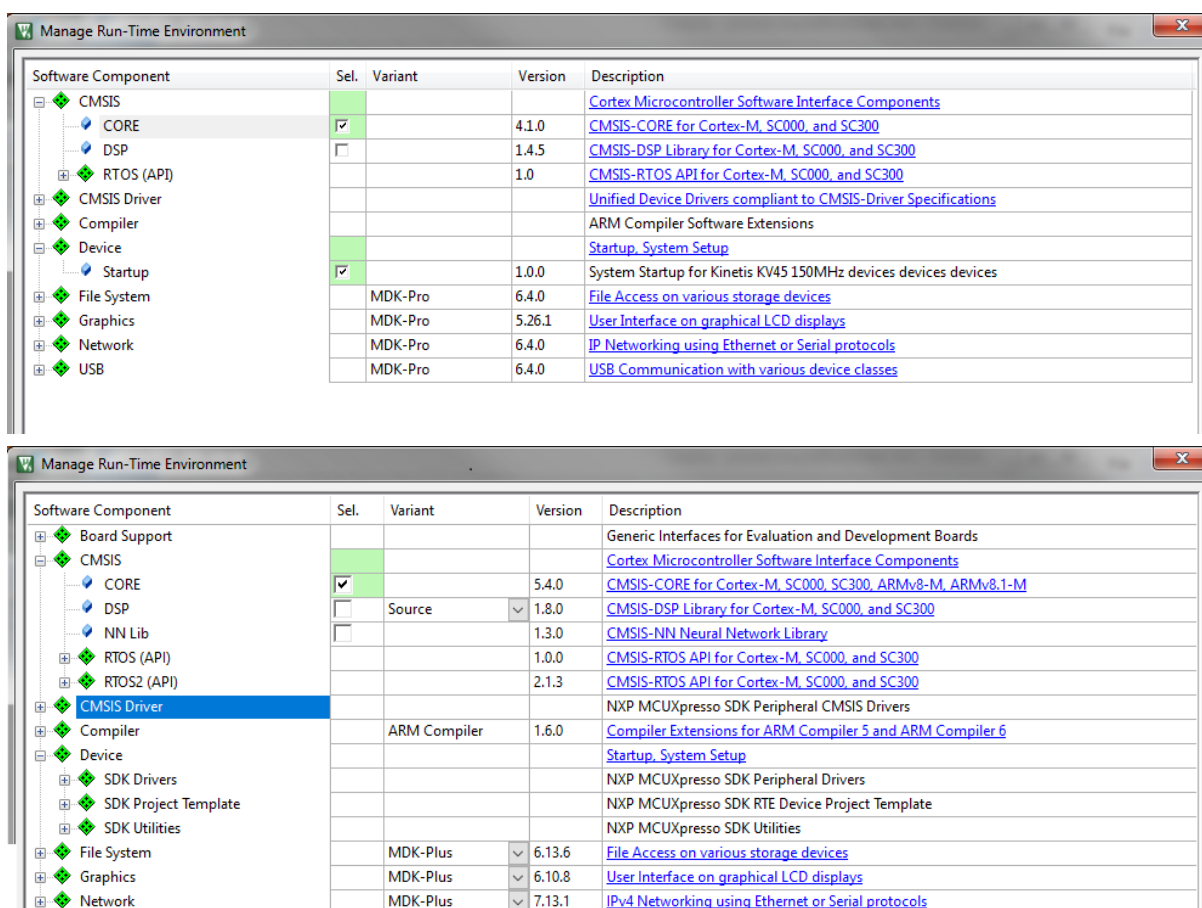

Figure 1-28. Manage Run-Time Environment dialog
8. In the next dialog, expand the Device node, and tick the box next to the Startup node. See Figure 1-28.